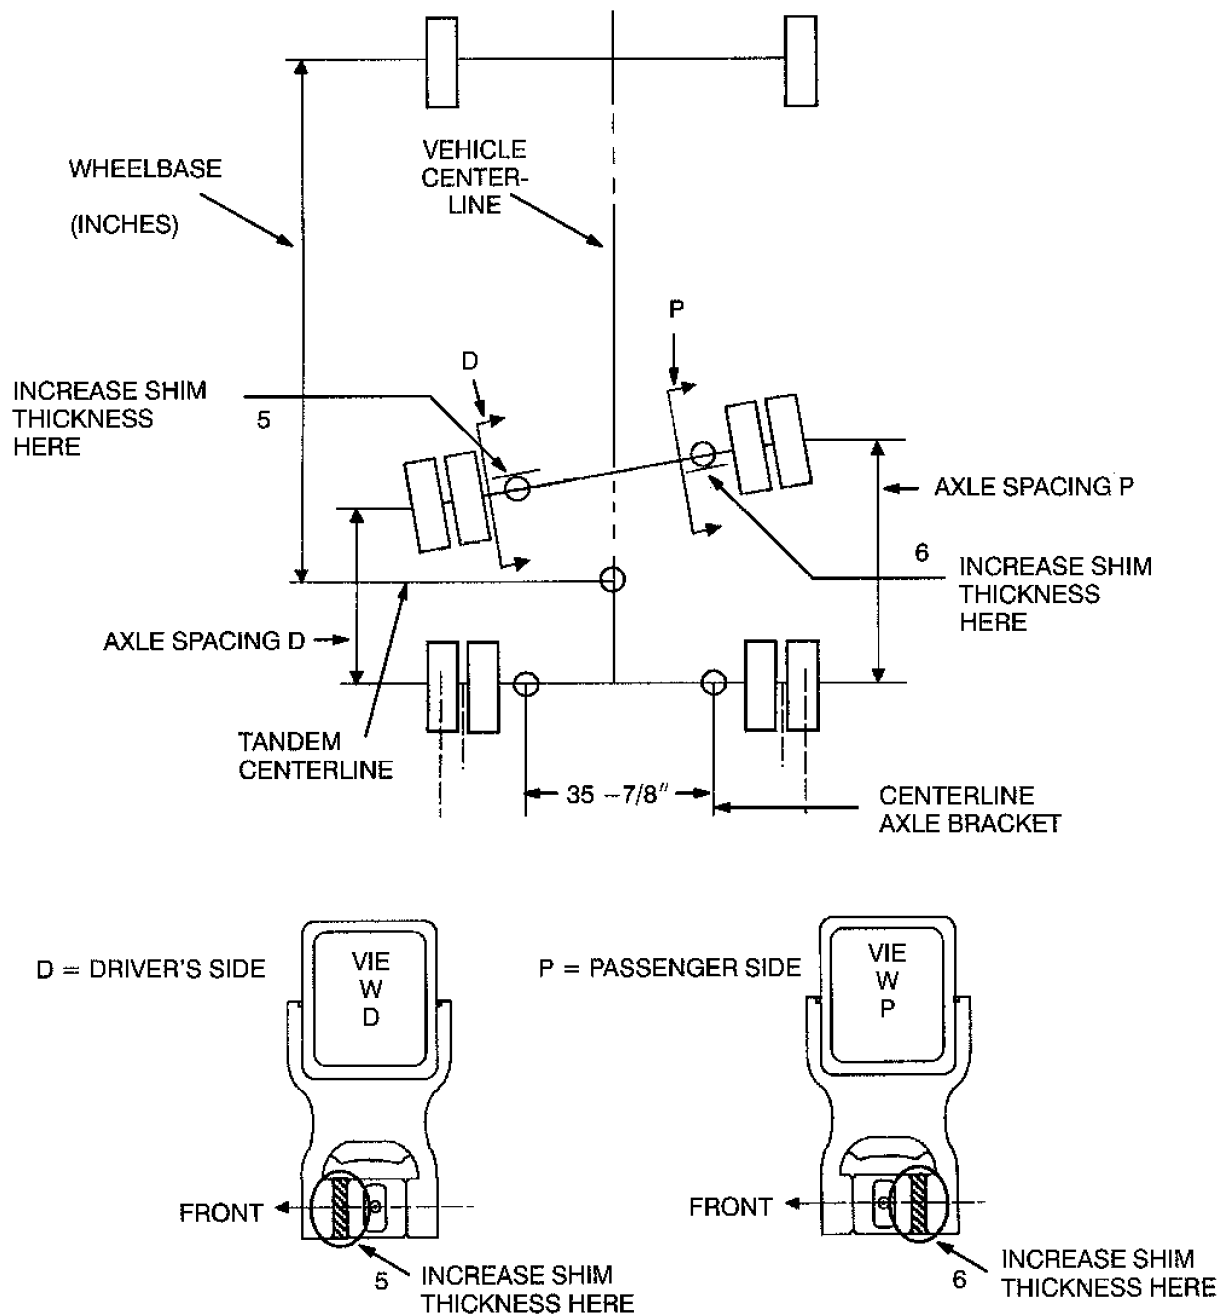
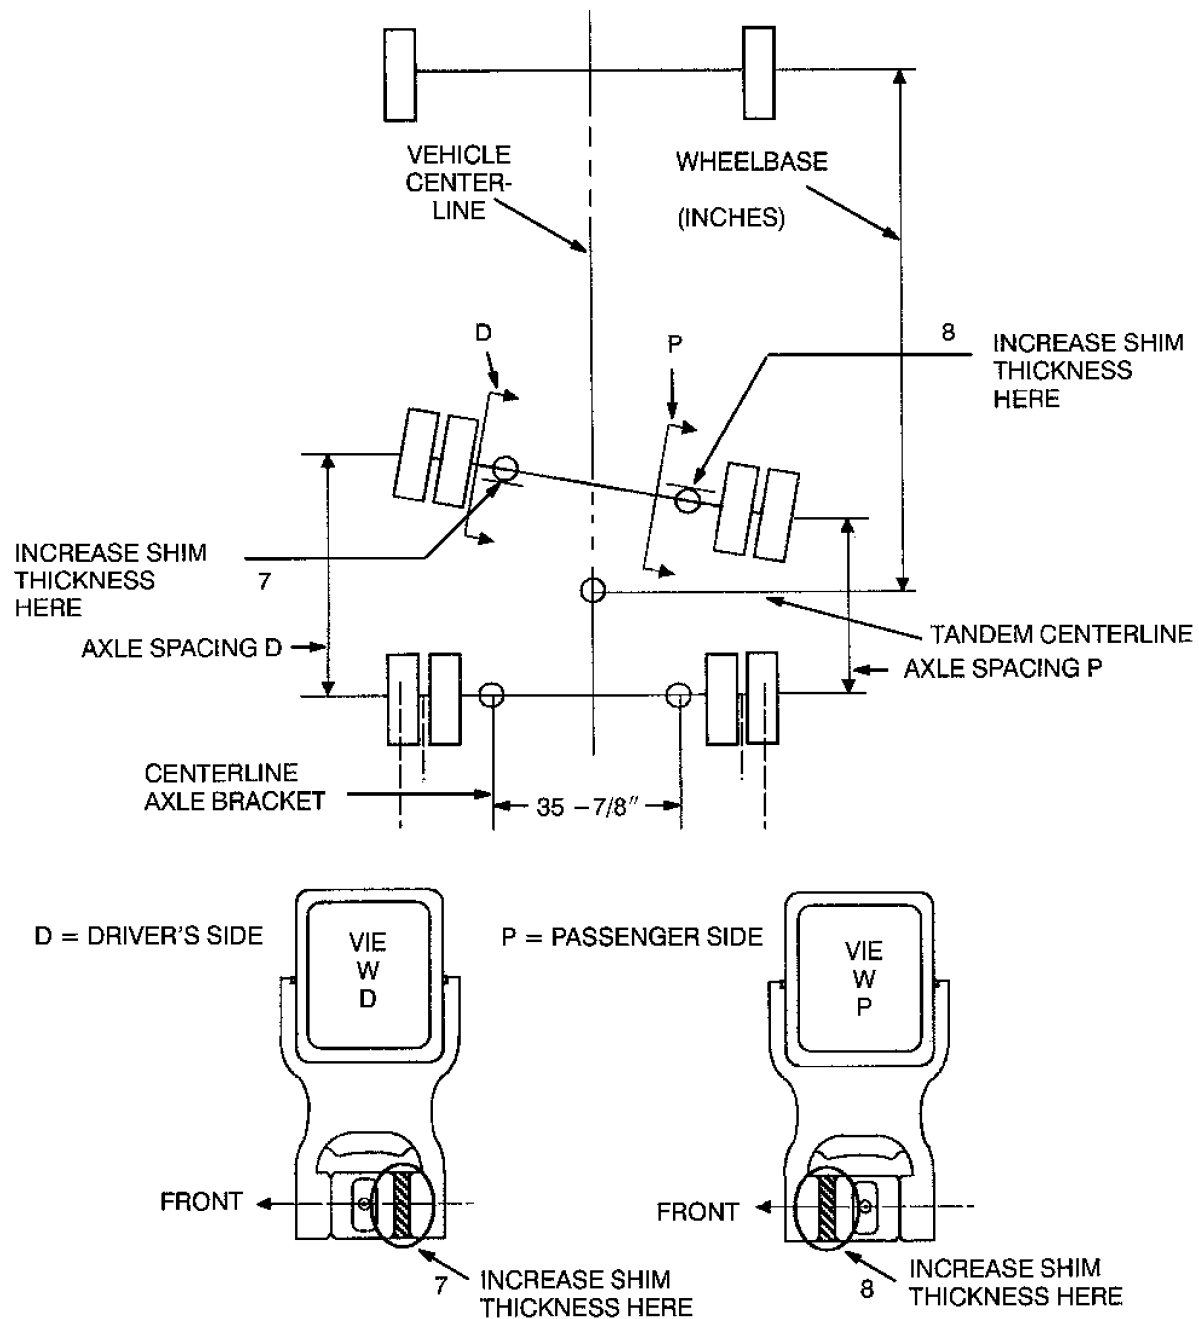

Figure 27 Clockwise Out-Of-Parallel Correction
Figure 28 Counterclockwise Out-Of-Parallel Correction
4. The illustration in Figure 27 requires a clockwise front tandem axle rotation to correct the non-parallel axle condition. Figure 28 requires a counterclockwise front tandem axle rotation to correct the non-parallel axle condition. The amount of parallel misalignment will determine how much adjustment is required.
Figure 27 and Figure 28 show where the shim thickness must be increased to correct any tandem axle non-parallel condition.